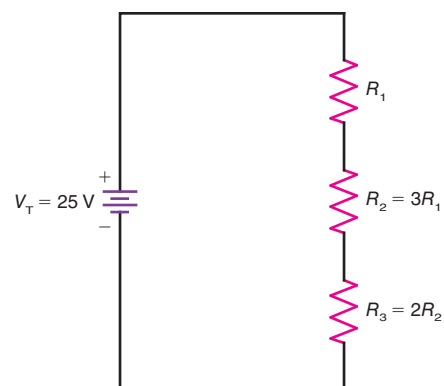

Figure 7-34
- 7.29** In Fig. 7-34, calculate V_1 , V_2 , and V_3 . Note that resistor R_2 is three times the value of R_1 and resistor R_3 is two times the value of R_2 .